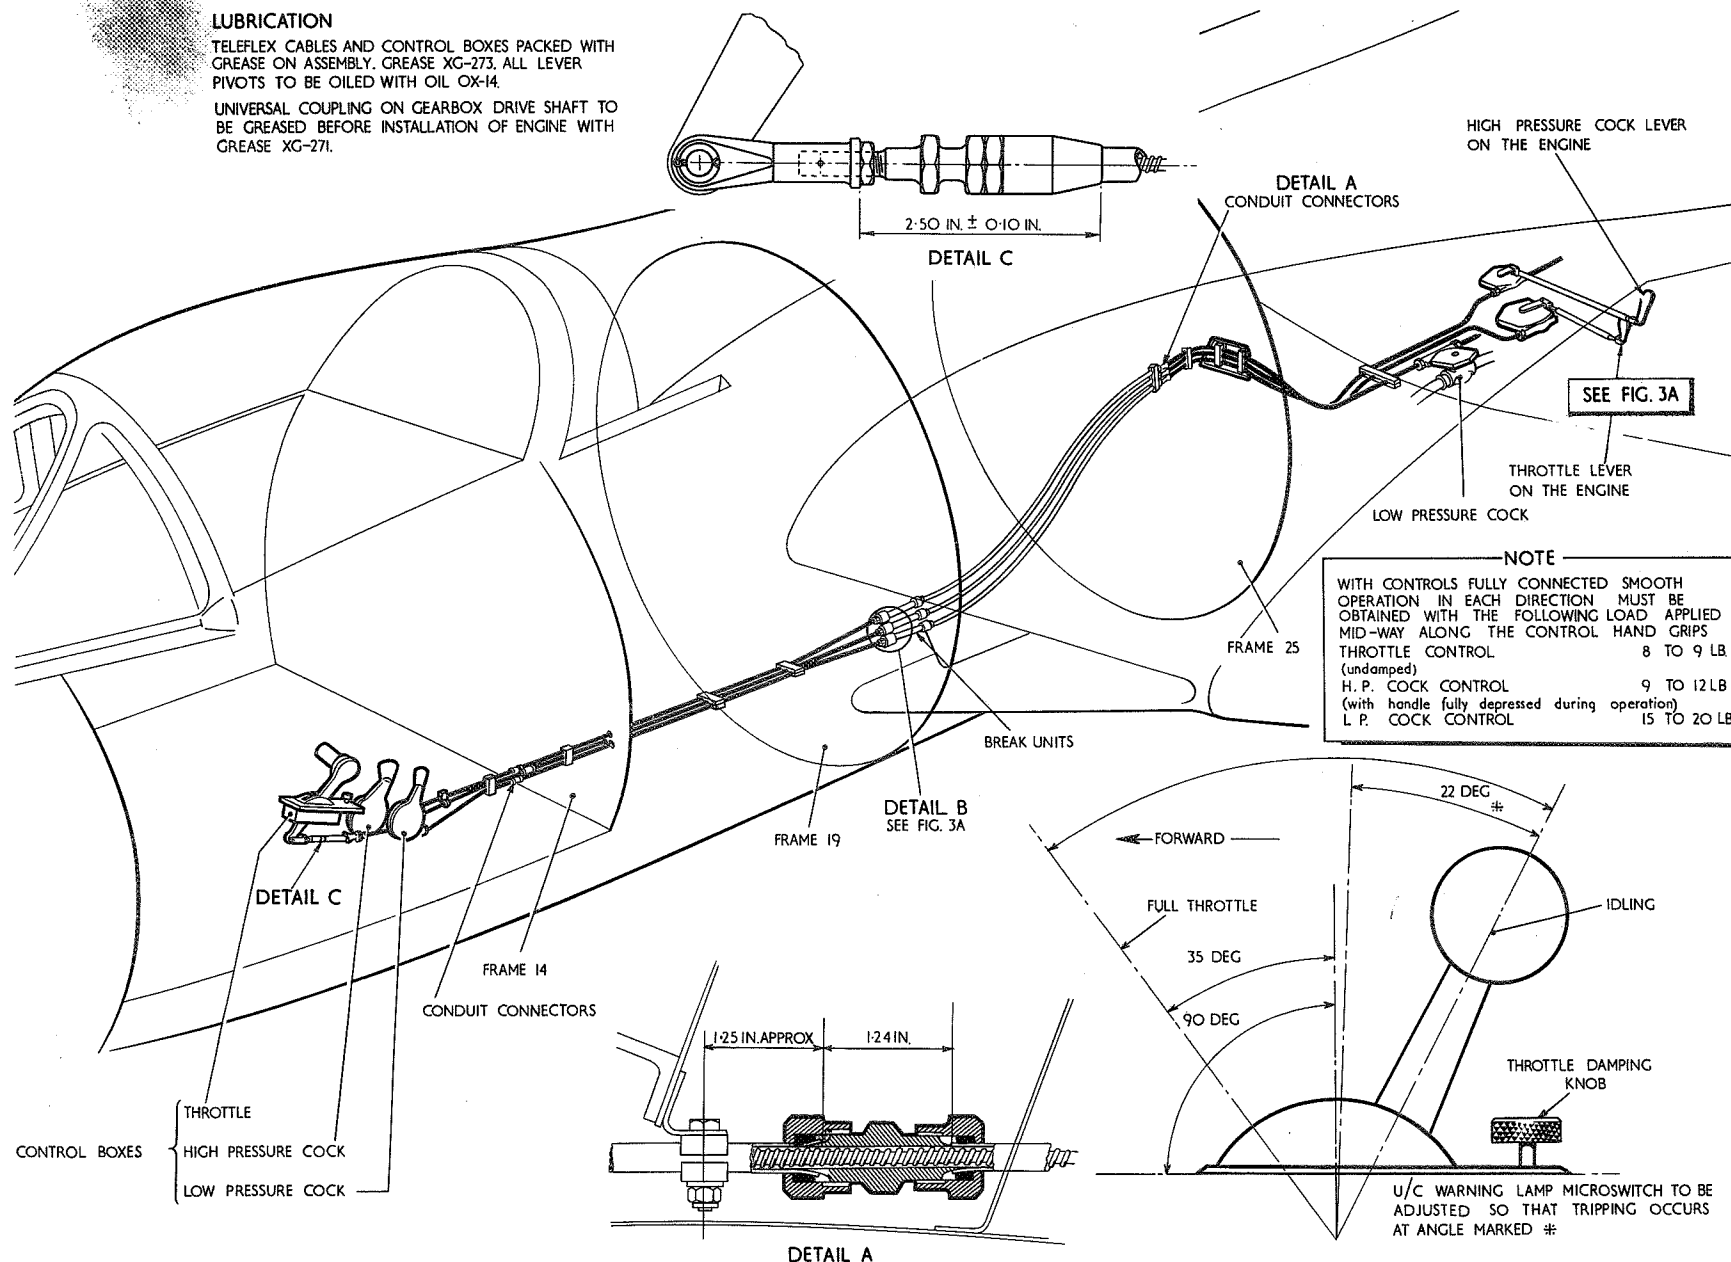

Fig.3 Engine controls (1)
Engine controls (fig. 3 and 3A)
throttle lever arm when the throttle is fully closed. On completion of the adjustments ensure that all controls are in safety, correctly locked and that they are free from fouling throughout their full range of movement. Lubrication details and control lever settings are given in fig. 3 and 3A.
15. Oil specifications and capacities for the engine and accessories gearbox are listed in the Leading Particulars at the front of this volume. The units should be checked for oil level before flight and topped up as necessary (Sect. 2, Chap. 2). Lubrication of the engine controls and gearbox universal shaft couplings are detailed in fig. 3, additional information on the gearbox drive universal couplings being given in para. 13.